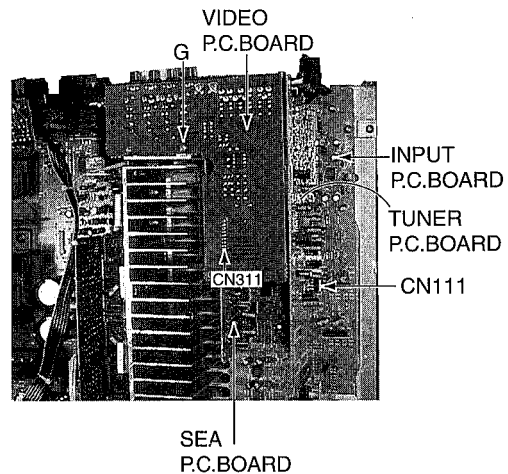

Fig.5
Disconnect the connector CN111 on the INPUT P.C.Board.(Fig.5)
(5)Remove VIDEO P.C.Board (Fig.5)